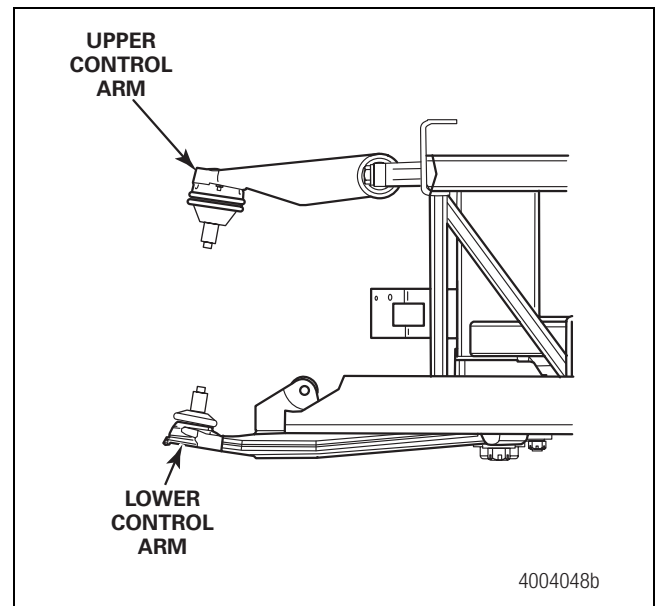

Figure 5.7
1. Support the lower control arm. Figure 5.7.